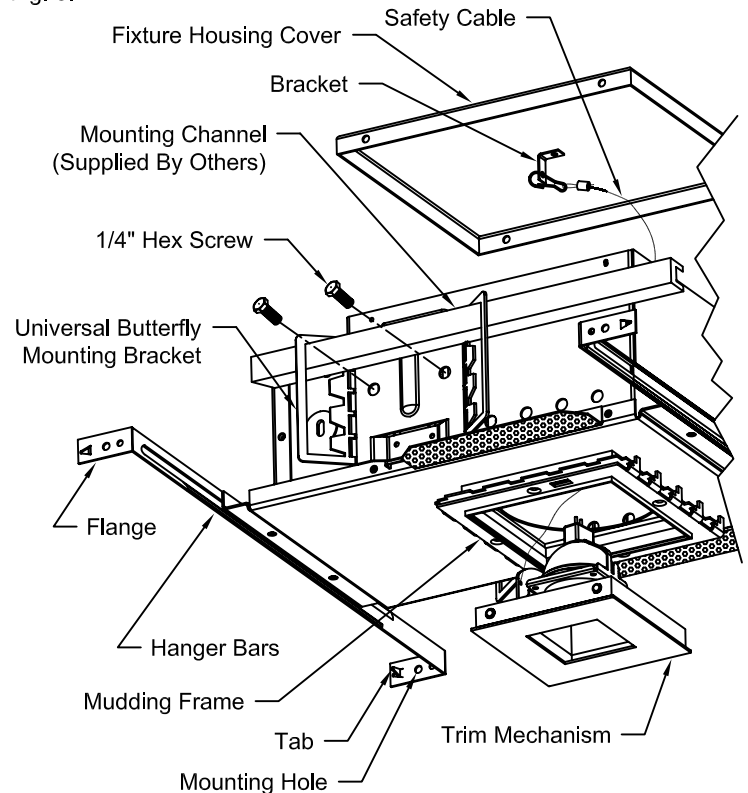
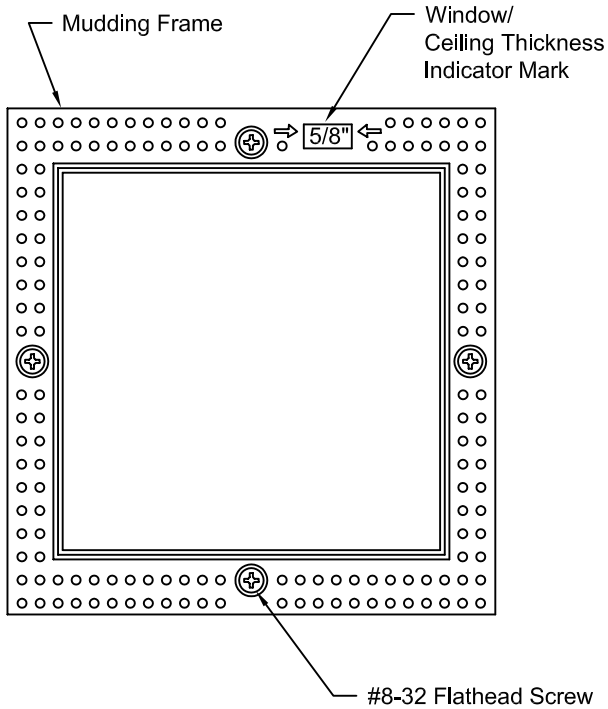

Figure 1
Figure 2
1. Fixture comes equipped with Universal Butterfly Mounting Brackets and can take common 1 inch or 1-1/2 inch Black Iron or Galvanized Mounting Channels (Supplied By Others). See Fig. 1.
3. Hammer Flanges to seat Hanger Bar Tabs in rafters. See Fig. 1.
4. Secure Hanger Bars using one (1) nail in Mounting Hole in each Flange.
5. Mudding Frame is sent unmounted from factory. Adjust Mudding Frame to applicable Ceiling thickness (1/2", 5/8", 3/4", 1") by rotating in 90° increments until desired Ceiling Thickness Indicator Mark shows through Window in Mudding Frame. See Fig. 2.
6. Secure Mudding Frame using four (4) #8-32x1/2 inch Flathead Screws (for 1/2 inch, 5/8 inch and 3/4 inch Ceiling thickness) or four (4) #8-32x3/4 inch Flathead Screws (for 1 inch Ceiling thickness).
7. Adjust elevation of Fixture so Mudding Frame Edge will be flush with surface of finished Ceiling by loosening two (2) 1/4 inch Hex Screws on both Universal Mounting Brackets. See Fig. 1.
8. Tighten two (2) 1/4 inch Hex Screws on both Universal Butterfly Mounting Brackets to secure Fixture. See Fig. 1.
1. Connect Safety Cable attached to Banana Bracket on Trim Mechanism (See Fig. 1) to Fixture by inserting Safety Cable through opening in Fixture and inserting Snap Hook on end of Safety Cable into hole in Bracket attached to inside of Fixture Housing Cover (See Fig. 1).